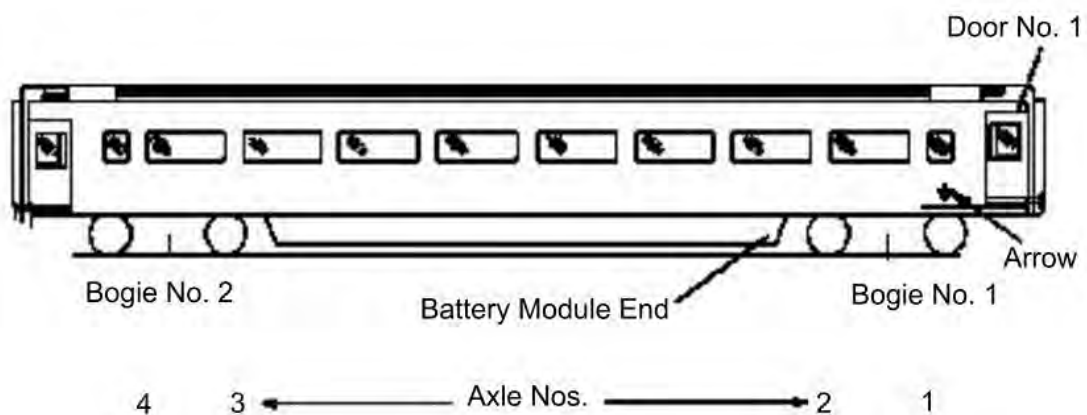

Figure 1: Identification of Axles
3.5.1 On vehicles fitted with BR WSP check that the wires in the body to bogie connection box are connected as shown in Figure 1 and Table 1.
3.5.2 On vehicles fitted with Westinghouse WSP check that the wires in the body to bogie connection box are connected as shown in Figure 1 and Table 2.